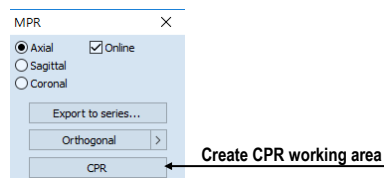

Figure 300 – Create a CPR working area
2. Activate **MPR** tool, and click **CPR** button (see Figure 300), or click the  **CPR** item of the **Tools** main submenu.